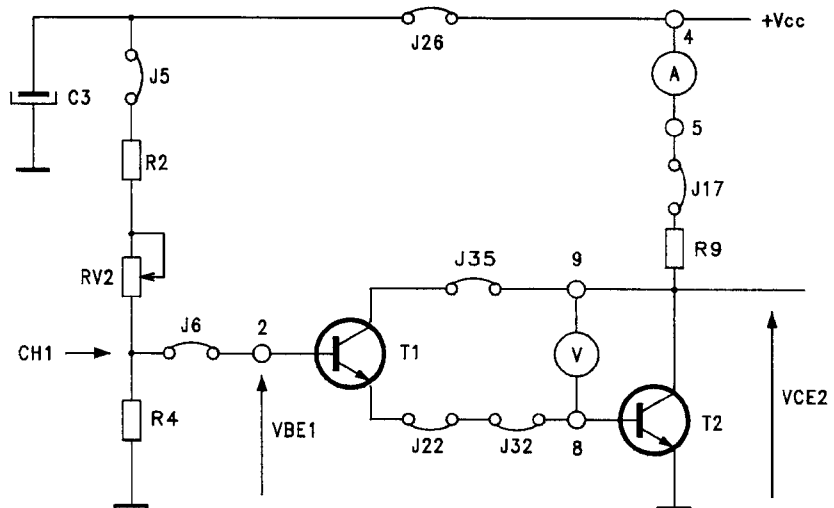

fig.B26.4
- Remove all jumpers, insert J5, J6, J17, J22, J26, J33, J35, J39, and the instruments to produce the circuit of figure B26.4.